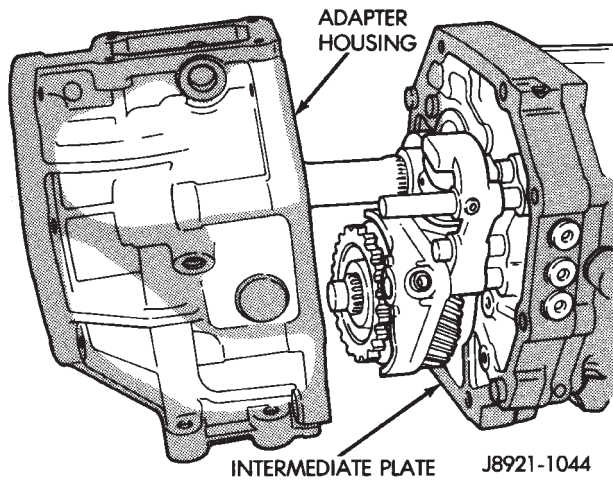

Fig. 14 Adapter Housing Removal
(15) Remove housing after loosening it (Fig. 14)